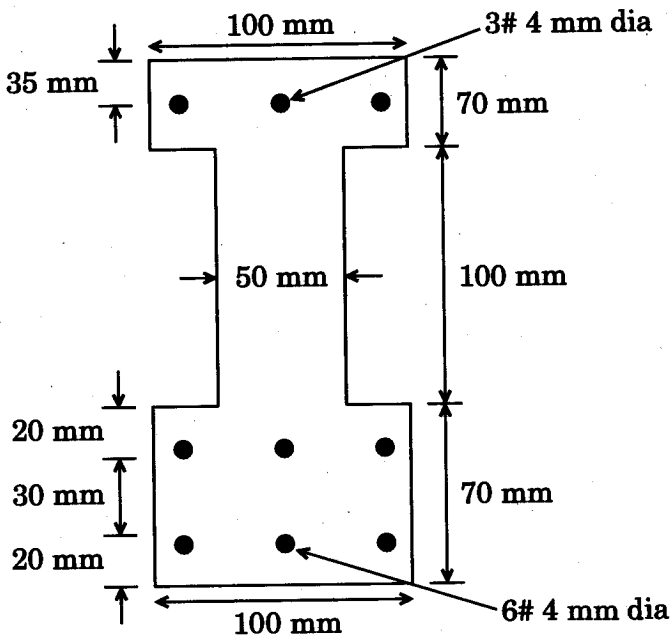

Figure 2
5. The prestressed concrete beam shown in Figure 2, provided with 9 wires of 4 mm diameter, is subjected to a prestress of  $800 \text{ N/mm}^2$ . Determine the sagging moment that can be applied to the section, so that the maximum compressive stress in concrete shall not exceed  $14 \text{ N/mm}^2$  and the maximum tensile stress in concrete shall not exceed  $1.4 \text{ N/mm}^2$ . Neglect the losses in prestress.